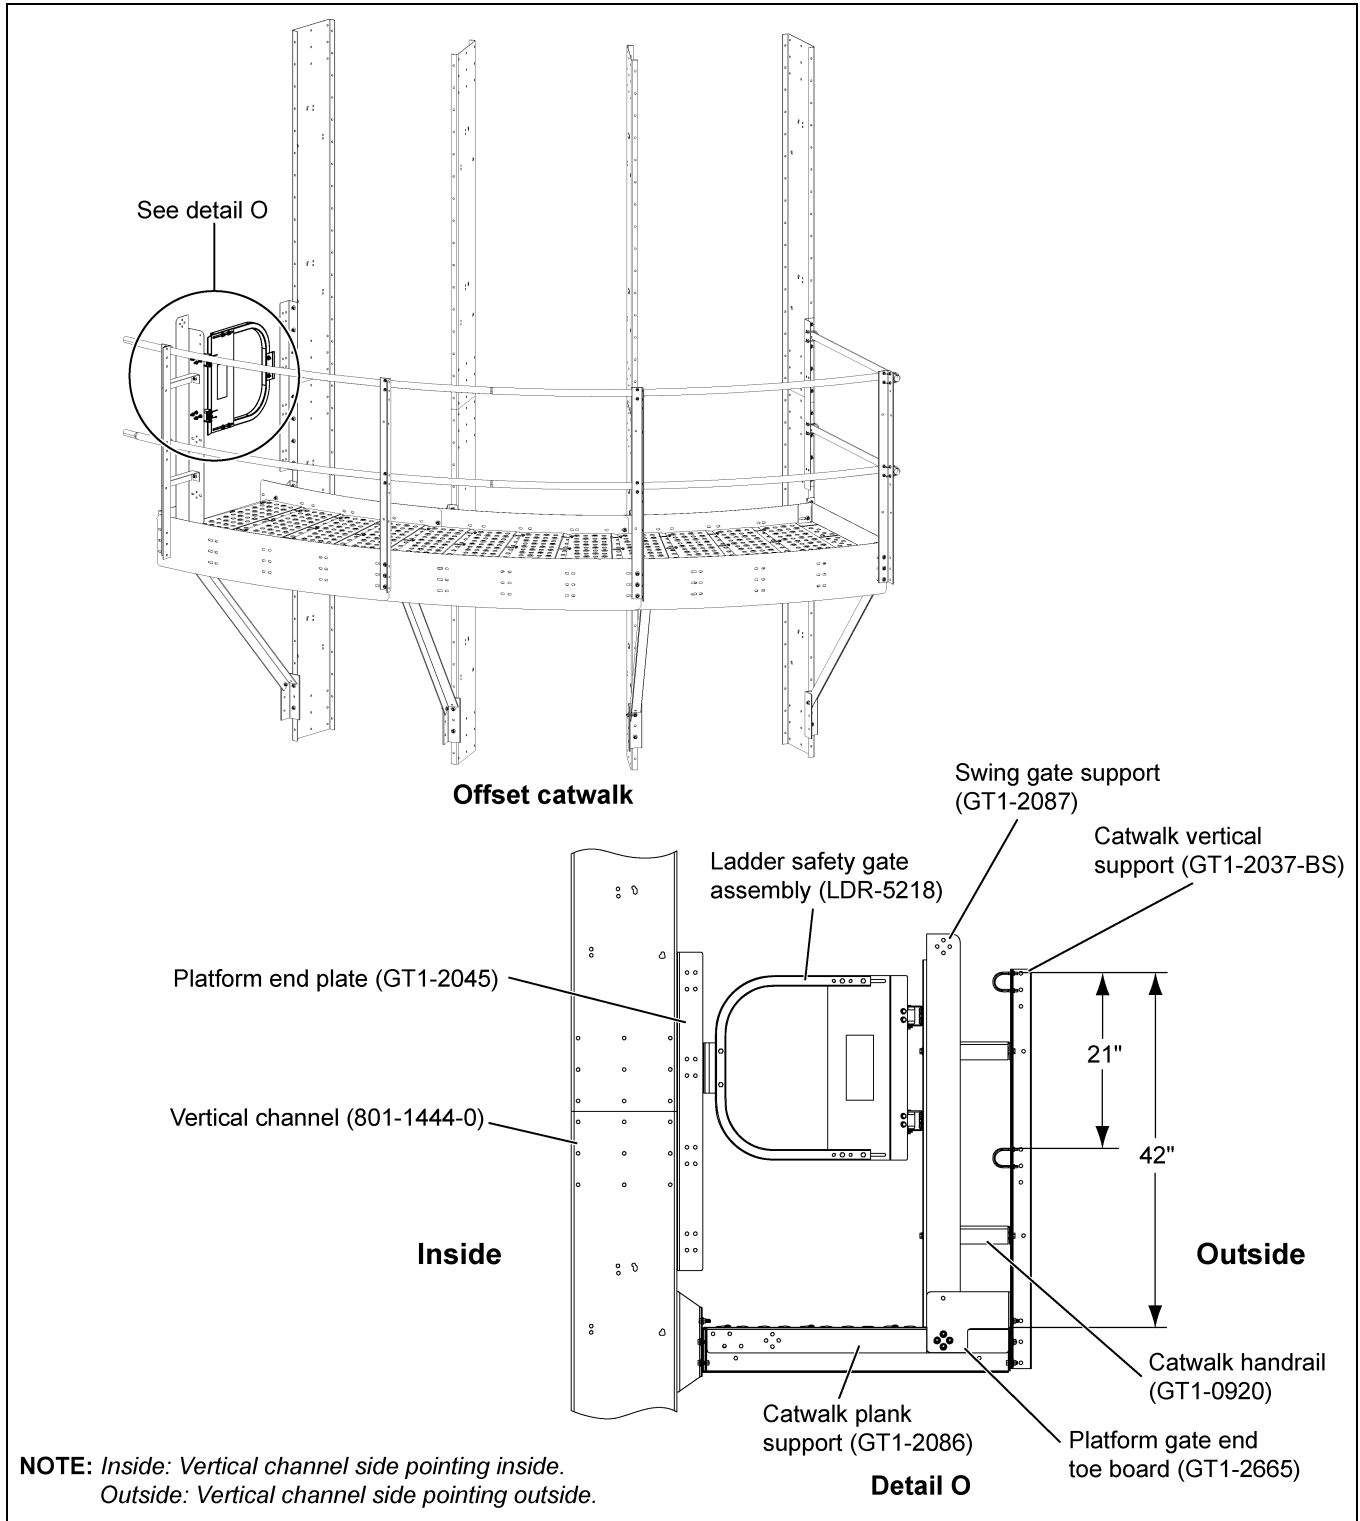
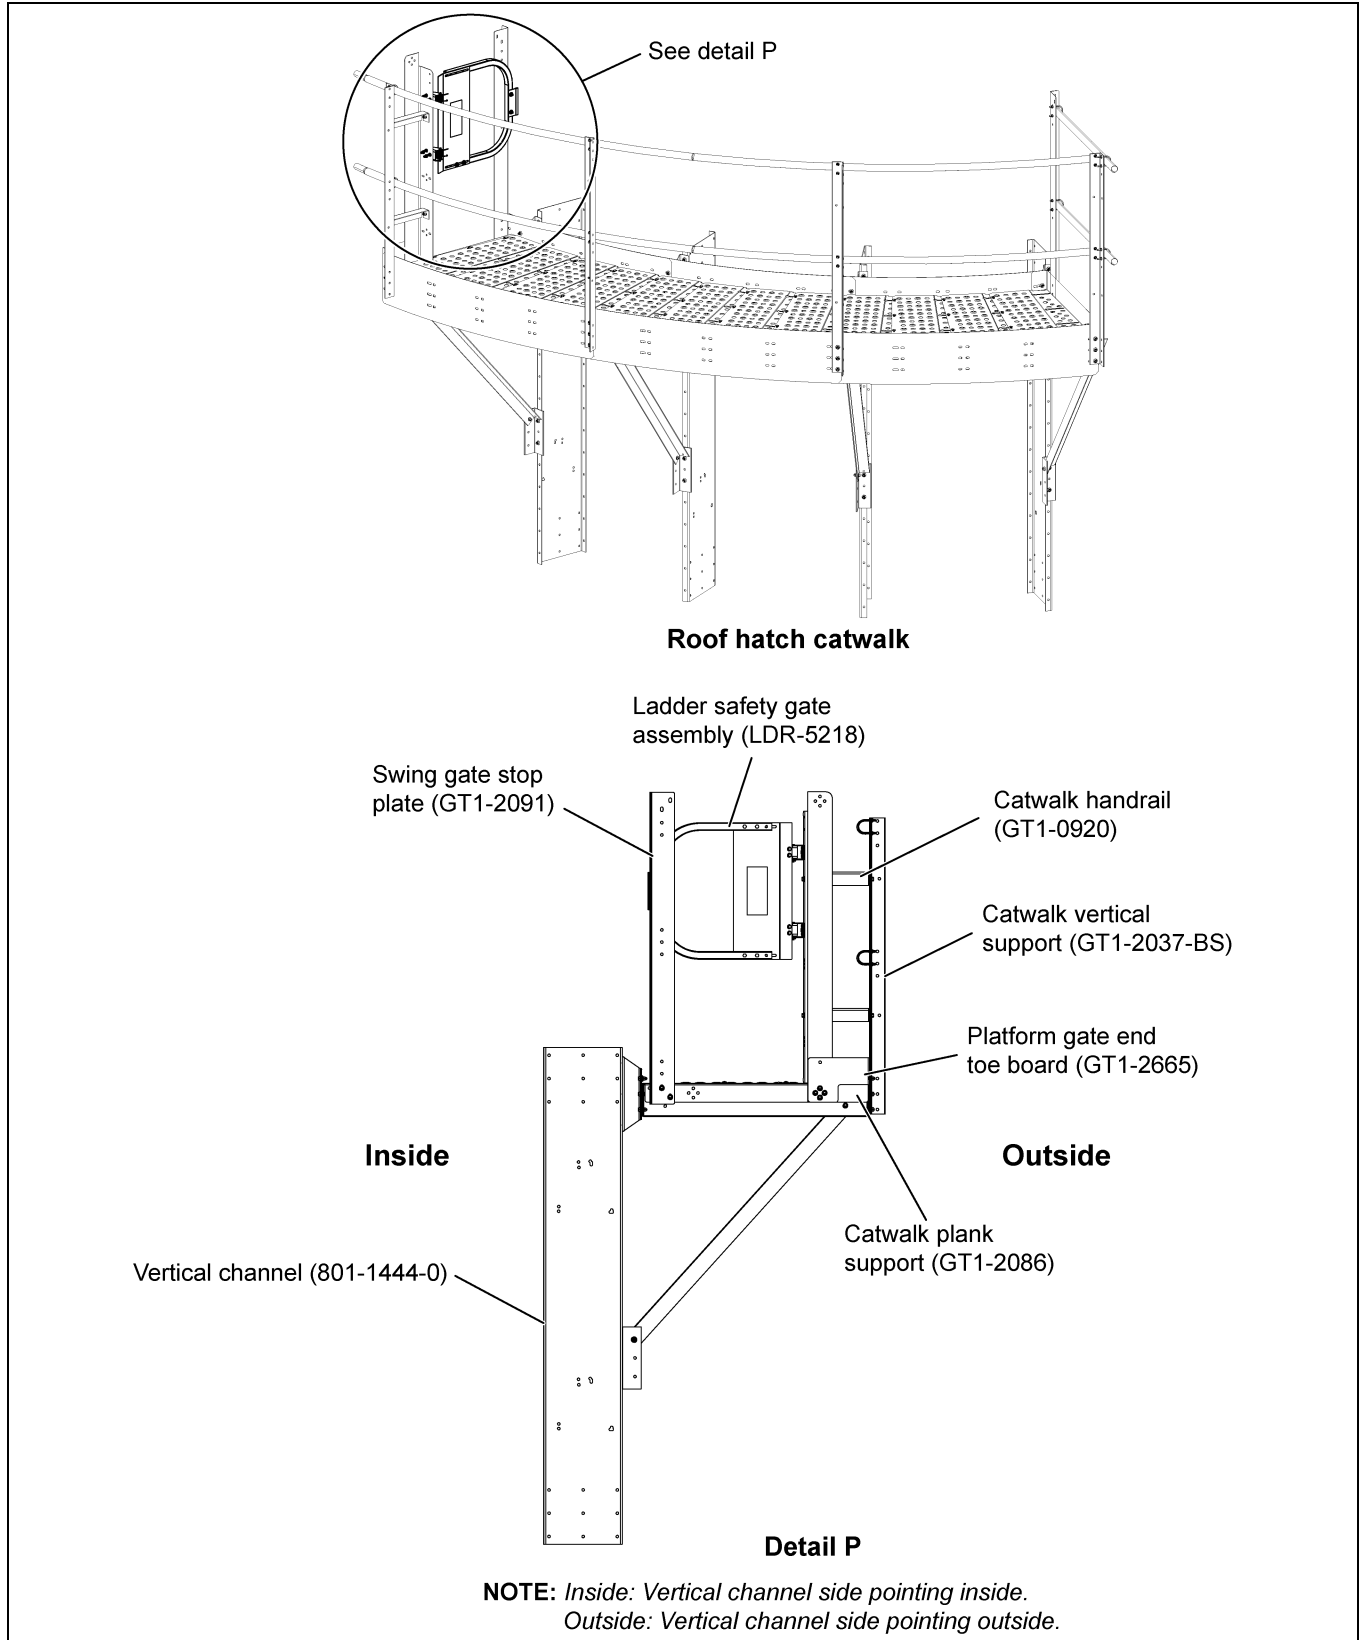

Figure 6Y Offset Ladder Safety Gage Assembly to Swing Gate Support (GT1-2087)
Figure 6Z Roof Hatch Ladder Safety Gate Assembly to Swing Gate Stop Plate (GT1-2091)
1. Install the ladder safety gate assembly (LDR-5218) to the swing gate support (GT1-2087) using 3/8"-16 x 1" JS grade 8 or grade 8.2 bolts (S-7485) and 3/8"-16 ZN grade 5 nuts (S-968). The distance between the plank and handrail is 42". (See Figure 6Y below and Figure 6Z on Page 66.)